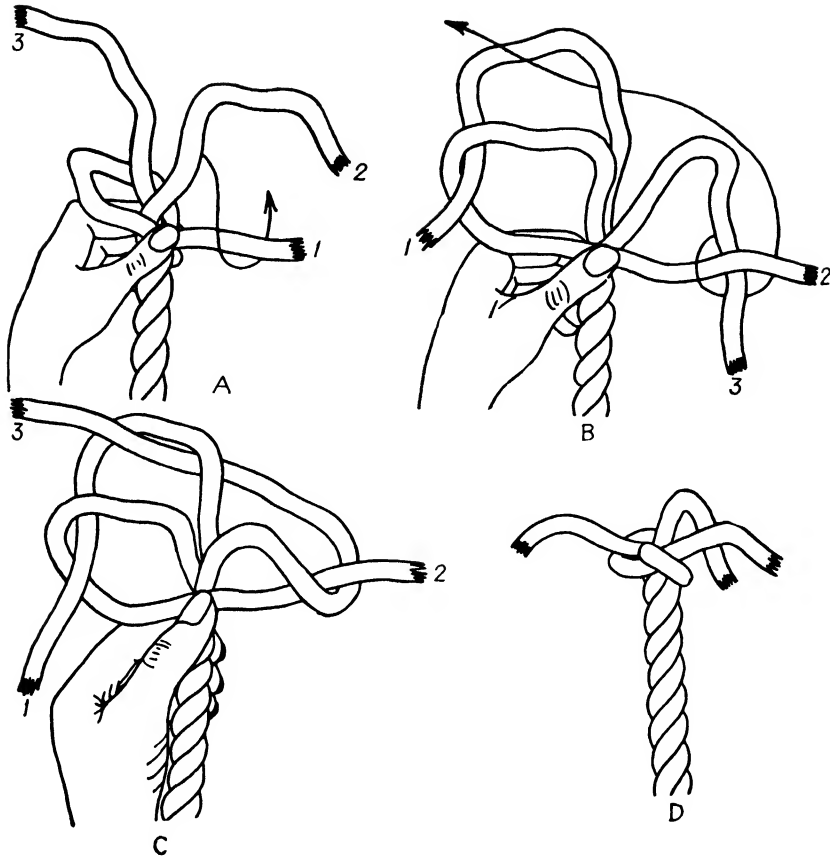

Fig. 8-6. The wall knot.
2. Bring strand 1 halfway around and across in front of the rope, holding it in place with the left thumb (see Fig. 8-6).